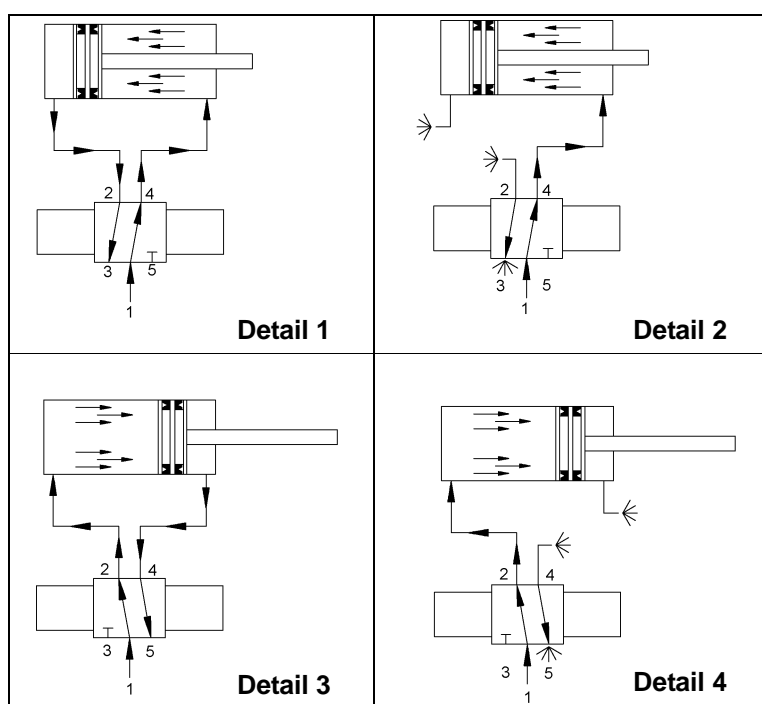

Figure 8B Valve Vs. Cylinder Leak Test Diagram
1. Cylinder retracted as shown Detail 1 in Figure 8B.
- i. Disconnect the line between Valve Cylinder Port “2” and the cylinder per Detail 2 in Figure 8B.
2. Cylinder extended as shown Detail 3 in Figure 8B.
- i. Disconnect the line between Valve Cylinder Port “4”, and the cylinder per Detail 4 in Figure 8B.